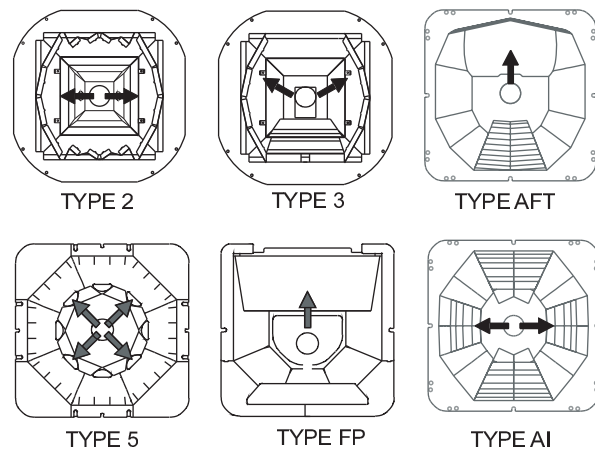

FIGURE 2
12. Reflectors are rotatable in 90 degree increments. Position reflector in housing for desired light output. See Fig. 2 for light direction of reflectors. Reinstall ballast cover. **IMPORTANT! Be certain that socket lead wires are routed OVER the TOP of the ballast cover (NOT UNDER the ballast cover)!**
NOTE: Pole must be pointed in correct direction! See Figure 2.